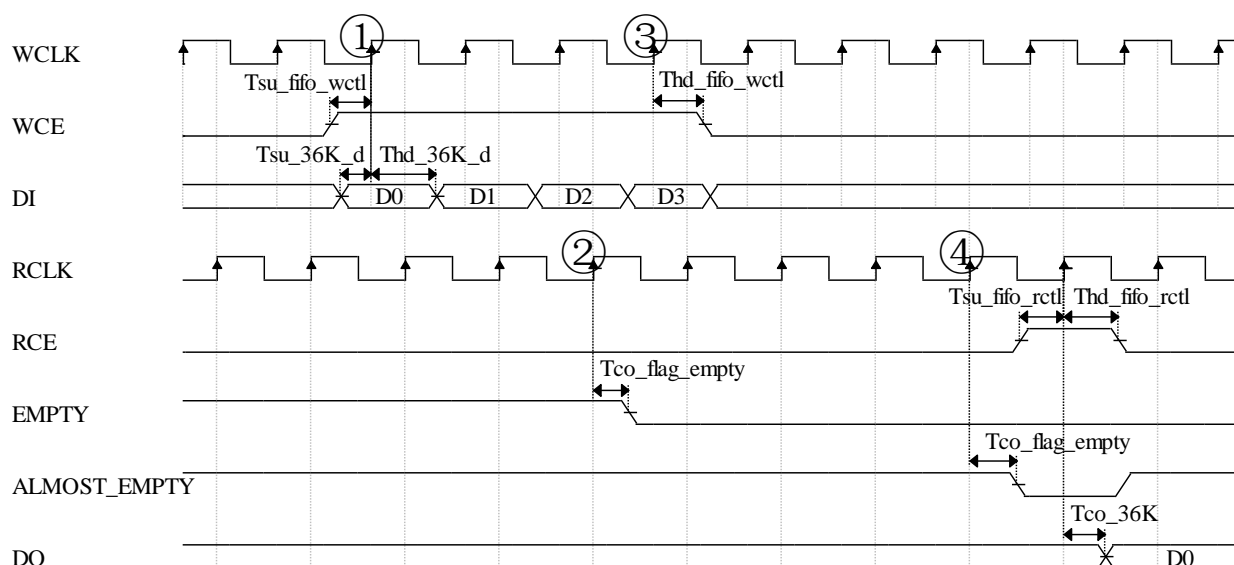

Figure 7-4 Write Timing to Empty Asynchronous FIFO
The EMPTY signal indicates the FIFO is empty. When WCE is active and data is successfully written, in synchronous FIFO mode, the EMPTY signal is set to "0" after 1 CLK clock cycle; in asynchronous FIFO mode, the EMPTY signal is set to "0" at the 3rd RCLK clock rising edge (rising edge ② in Figure 7-4) after valid data is successfully written (rising edge ① in Figure 7-4). When WCE remains active, the ALMOST_EMPTY signal is cleared (rising edge ④ in Figure 7-4) with a delay based on the configuration of ALMOST_FULL_OFFSET. If the rising edge of WCLK is close to that of RCLK, the EMPTY and ALMOST_EMPTY signals may be cleared with an additional delay of one RCLK clock cycle.
Figure 7-4 shows the write timing to empty asynchronous FIFO: